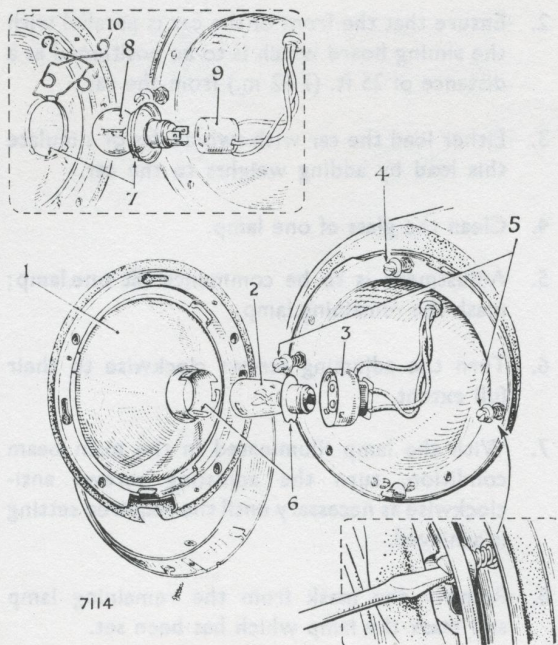

Fig. 24 Headlamp Assembly (Early Models)
Adjustment of Setting (Refer to Fig. 24)
(Refer to Fig. 24)
To renew bulbs (Refer to Fig. 24)
- KEY TO FIG. 24